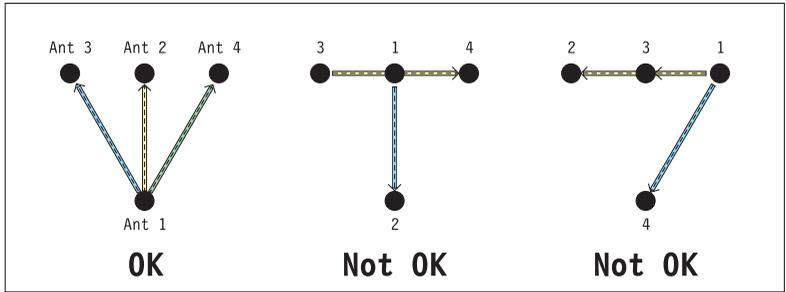

Figure 3.1. Configurations of Antennas (Top View)
| Geometrical Configuration | <ul style="list-style-type: none"> • Almost any geometric shape is acceptable provided that none of the resultant vectors are co-linear (i.e. if three antennas are arranged in a line, Antenna 1 may not be one of those antennas (Figure 3.1)). • Antennas do not need to be co-planar, however, for best results, at least two antennas should be at the same height. |
4. Secure the remaining two antennas, Antennas 3 and 4, to rigid structures of the vehicle as suggested in Figure 3.1.